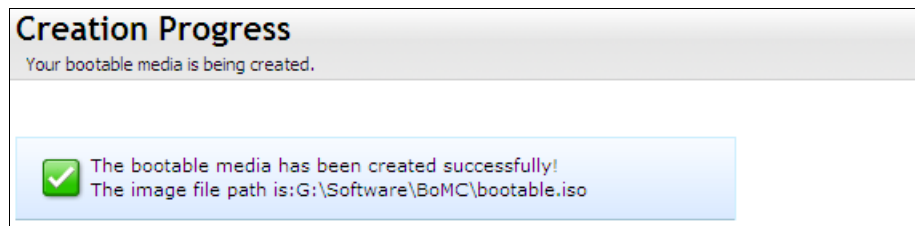

Figure 9-83 Confirmation that the creation process is finished
15. After the update completes (Figure 9-83), click **Next**.